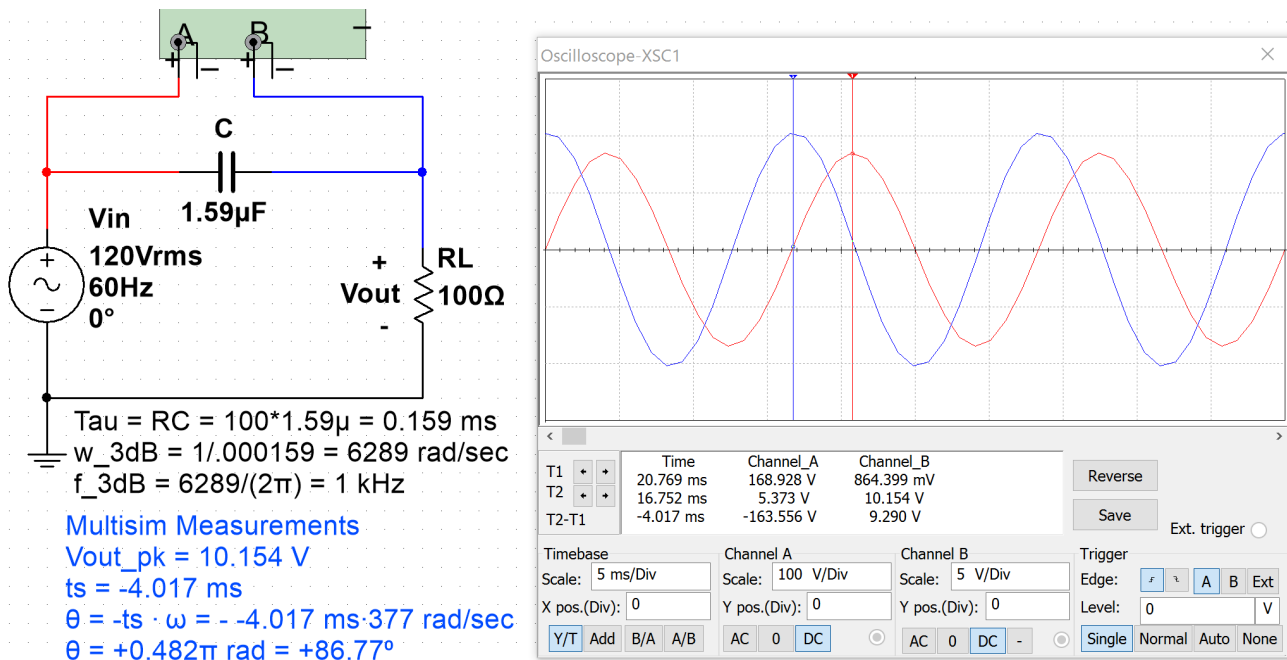

Figure 4.10: Multisim oscilloscope verification of Bode plot and calculated results of Example 4.2.
Using the Bode plot to determine the output signal is much easier than solving the problem algebraically. The following steps show how to solve this problem and the values are verified in the Multisim scope plot in Figure 4.10. The problem solving technique shown below is the same process that was performed in Section 3.2 - Series RLC Circuits. The Blue Font shows the Multisim measurements. Notice that they closely match the calculations.
- $Z_{Total} = R_L - j X_C = 100 - j 1668.3$ $Z_{Total} = 1671.3 \angle -86.57^\circ \Omega$ (ICE) (Notice: V_{RL} leads V_{in} in Figure 4.10)